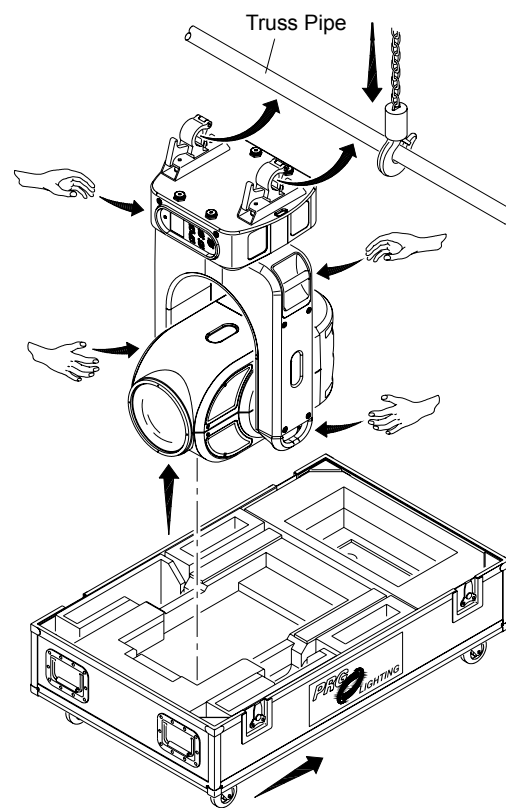

Figure 2-4: Removing Luminaire From Case
- Step 2. Roll case to mounting location as required (Figure 2-4).